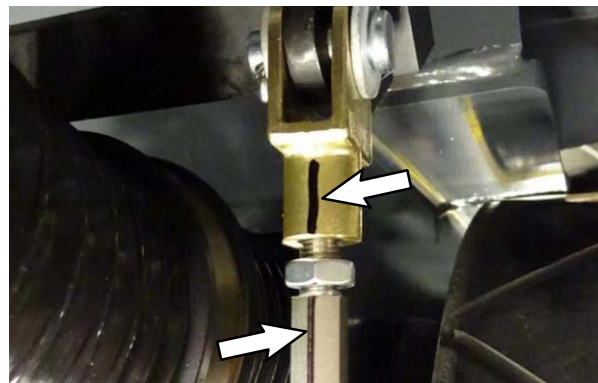
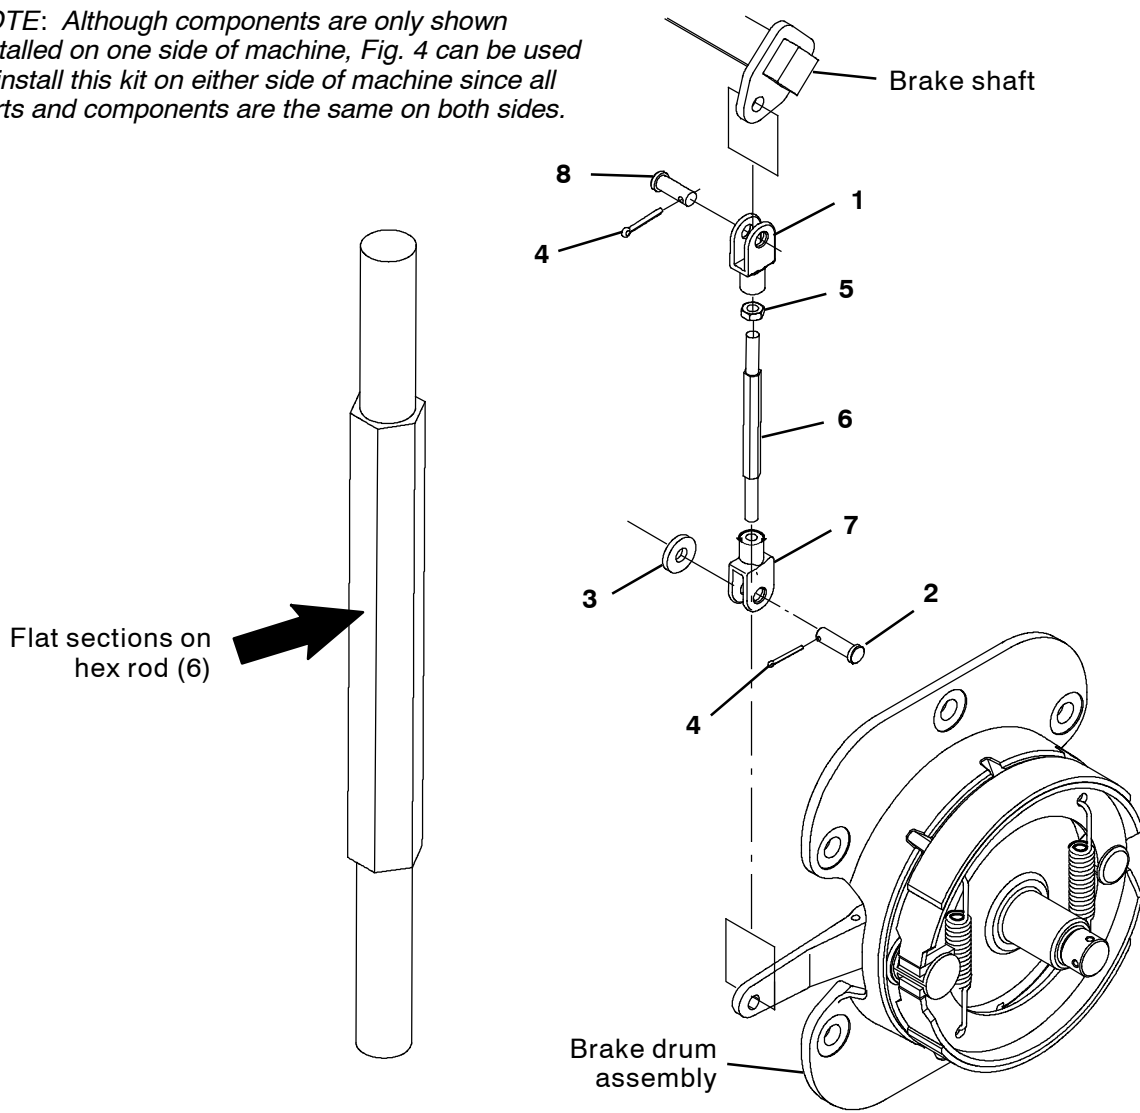

FIG. 3
FIG. 4
2. Disconnect the brake rod from the brake shaft and brake drum assembly. Discard the brake shaft and all hardware used to secure the brake shaft to the brake rod and brake drum assembly. (Fig. 4)
3. Use a clevis pin (8) and a cotter pin (4) to connect the end of the brake rod assembly to the brake shaft. (Fig. 4)
4. Use a clevis pin (2) and a cotter pin (4) to connect the end of the brake rod assembly to the brake drum assembly. (Fig. 4)
NOTE: Head of clevis pin (2) ***MUST*** be oriented to the ***OUTSIDE*** of the machine as shown in Fig. 3.
6. Rotate the wheel by hand and twist the hex rod (6) until the wheel stops turning. (Fig. 4)
7. Use a marker to mark a straight line from the hex rod (6) up to the adjustable clevis (7). (Fig. 3 / Fig. 4)
8. Loosen the hex rod (6) five flat sections to loosen the brake resistance. (Fig. 3 / Fig. 4)
10. Tighten the jam nut (5) against the rod (6). (Fig. 3 / Fig. 4)
NOTE: Although components are only shown installed on one side of machine, Fig. 4 can be used to install this kit on either side of machine since all parts and components are the same on both sides.